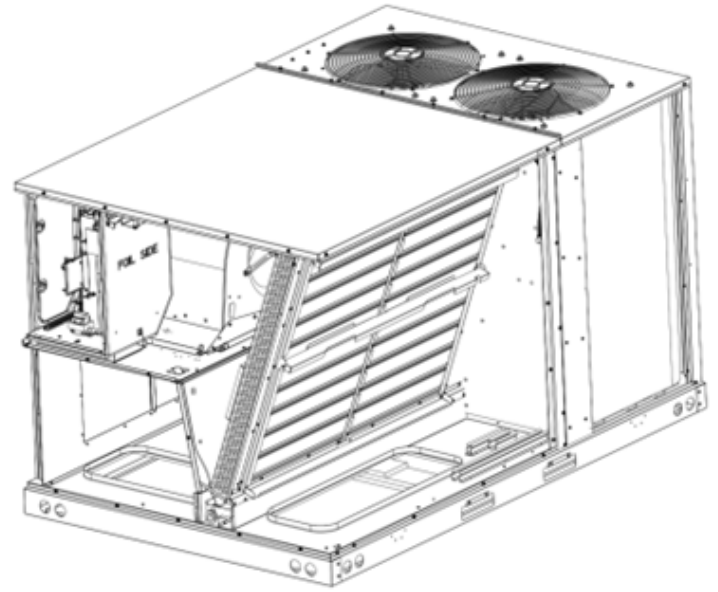

FIGURE 31A
9. Route the 2-way connector from the back of the control box through the bushing on the coil bottom support as shown in Figure 31A through 31E.